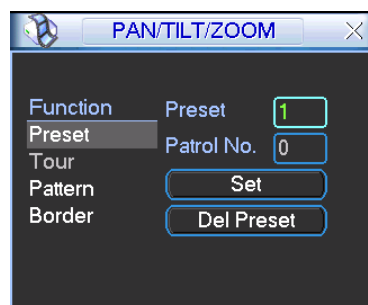
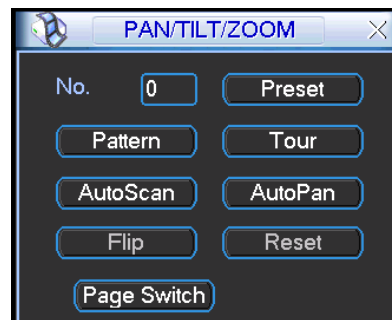
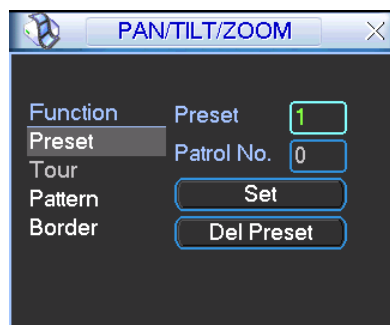

Figure 4-46
Figure 4-47
Figure 4-48
In Figure 4-43, please click the “set” button. The interface is shown as below. See Figure 4-46. Here you can set the following items:
In Figure 4-43, click page switch button, the interface is shown as in Figure 4-47. Here you can activate the following functions:
- The following setups are usually operated in the Figure 4-43, Figure 4-46 and Figure 4-47.
In Figure 4-46, click preset button and input preset number. The interface is shown as in Figure 4-48.
In Figure 4-47, please input preset number in the No. blank, and click preset button.
In Figure 4-46, input patrol (tour) number in the No. blank and click patrol button
In Figure 4-46, click pattern button and then click “begin” button. The interface is shown as in Figure 4-50. Then you can go to Figure 4-43 X to modify zoom, focus, and iris.
In Figure 4-47, click “Auto Scan” button, the system begins auto scan. Correspondingly, the auto scan button becomes Stop button. Click stop button to terminate scan operation.
In Figure 4-47, click page switch button, you can see an interface is shown as below. See Figure 4-52. Here you can set auxiliary function. The aux value has relation ship with the Aux button of the decoder.